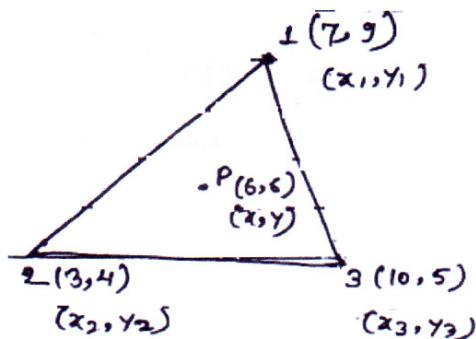

Figure 4
- Q3) a)** A constant strain triangular element is defined by three nodes as shown in Figure 4. Evaluate the shape functions N_1, N_2 , and N_3 at the interior point P (6,6). [7]